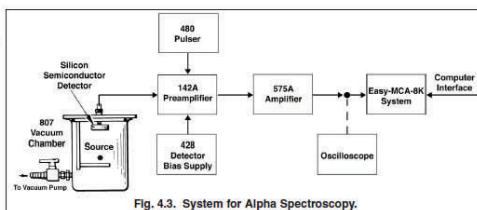

Fig. 4.3. System for Alpha Spectroscopy.
1. Set up the equipment as shown in Fig. 4.3, with the 807 Vacuum Chamber connected to the ALPHA-PPS-115 Portable Vacuum Pump Station via the vacuum hose.